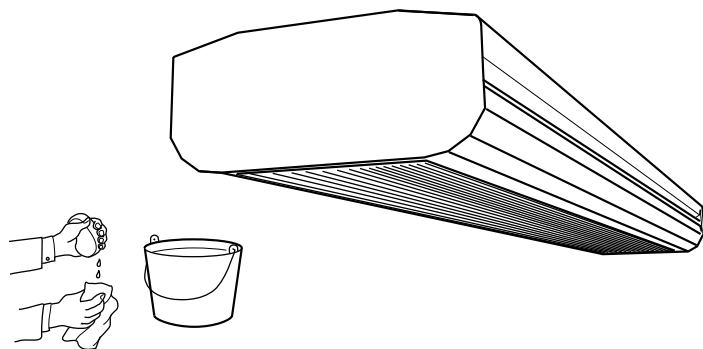

FIGURE 19
- 1) Wipe down the exterior of the chilled beam with soap and water as needed. (See **FIGURE 19**)